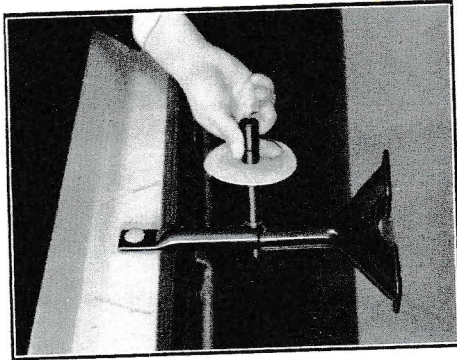

Figure 14
- The upper part of the stand is pierced with a series of holes. Insert the straight end of the plug (fig. 14) in the penultimate hole nearest the base.